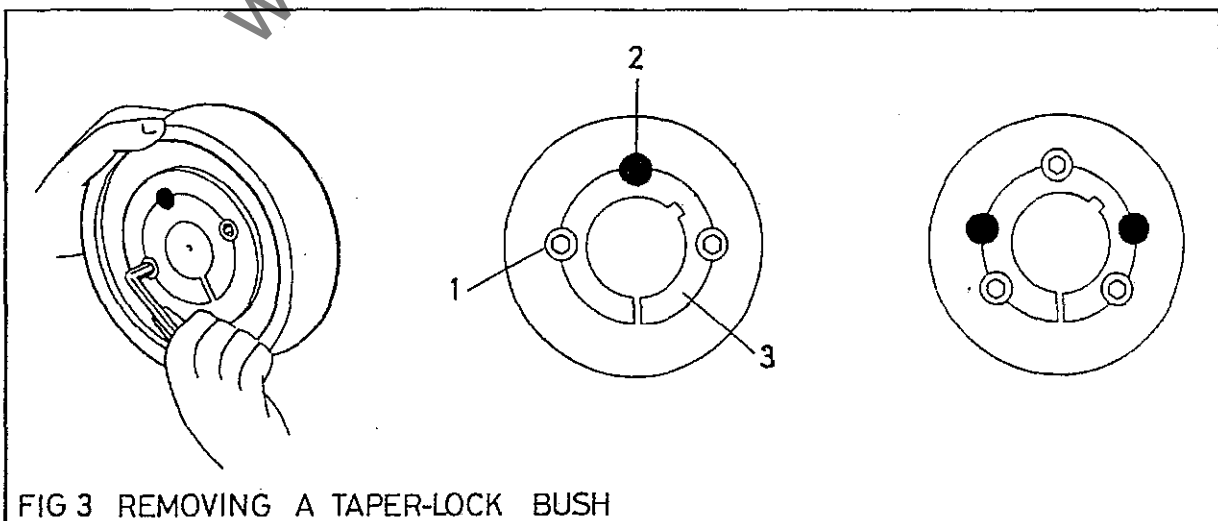

FIG 3 REMOVING A TAPER-LOCK BUSH
- 3) Relieve tension on belts by reducing drive centres i.e. slacken off the four motor mounting bolts (1), the locknut (3) and raise the motor by rotating nut (2) in a clockwise direction.
**Note:** It may at times be necessary to remove a drive pulley. The motor shaft pulleys are fitted with taper lock bushes (see fig 3). Spindle pulleys are located on tolerance rings and held on by spigot washer and screw.
## Removal and Refit of Drive pulleys (Fig 3)